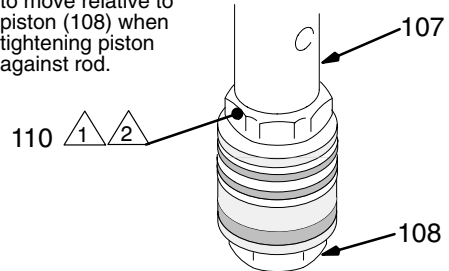

Fig. 20
- Hand tighten the valve into the piston rod just until the nut (110) contacts the rod. See Fig. 20.
- Place the flats of the rod (107) in a smooth jaw vise.
- CAREFULLY** tighten the nut (110) against the piston rod to 19 ft-lb (25 N.m). See Fig. 20.